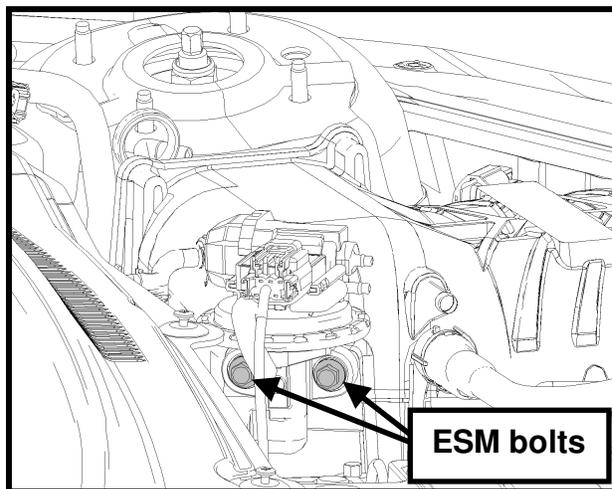
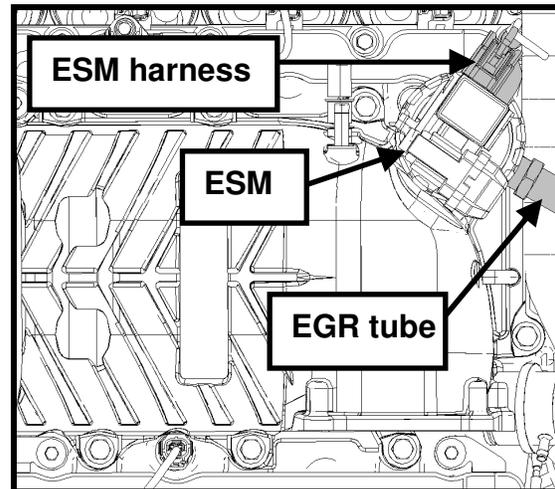

Fig. 22
Fig. 23
**STEP 7:** Apply a thread sealing compound to the stock EGR bolts. Install the ESM and torque the bolts to 25 Nm (221 lb in) (See Fig. 22). Connect ESM electrical harness and the EGR tube (See Fig. 23). Torque the EGR tube to 35 Nm (309 lb in).